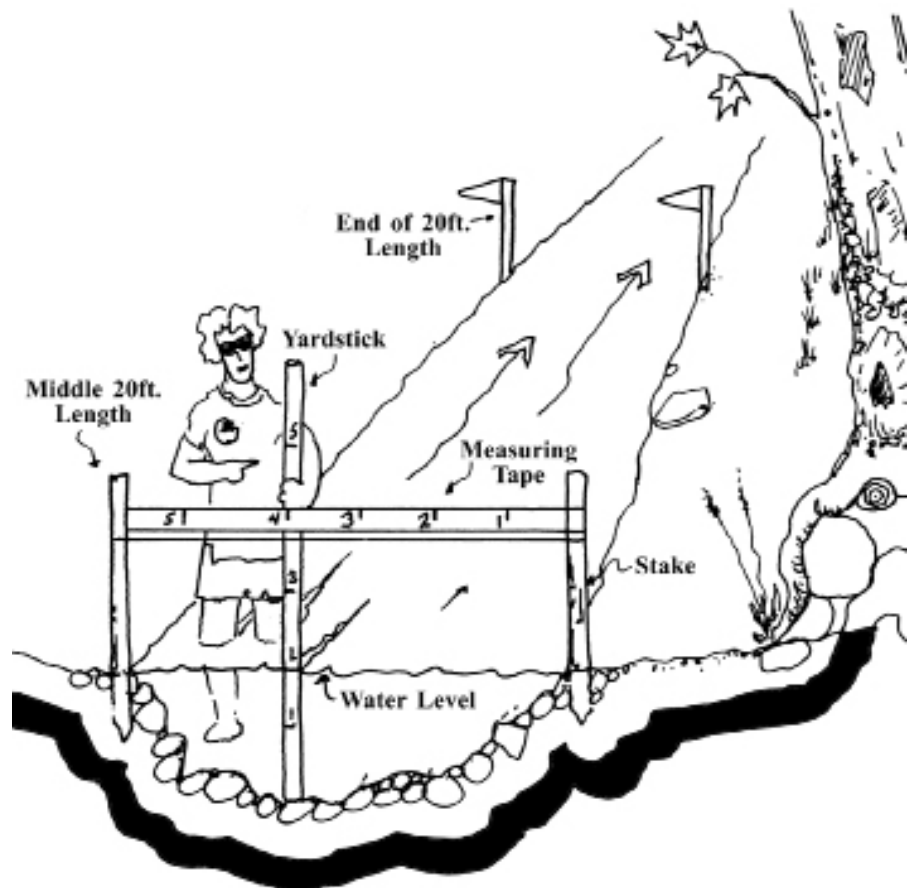

Figure 1. Credit: Chris Padick, Malibu Creek Stream Team
4. Secure the measuring tape to both shores so that the tape is taut and above the surface of the water. You might choose to attach the tape or a length of string to two stakes secured on opposite banks to create a transect line across the stream if it is impractical to secure the tape using shoreline vegetation (Figure 1).